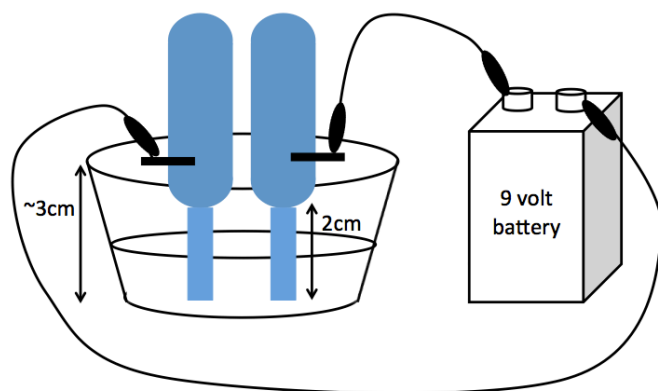

Fig. 1.8. Equipment set-up for electrolysis of water
4. Push the pin into *one* side of each of the pipette bulbs about 1/3 of the way up the bulb from the stem (see Fig. 1.8).
7. Place the pipettes stem down in the remaining solution in the small cup, with the pipette stem holes completely submerged in the solution. See Fig. 1.8.